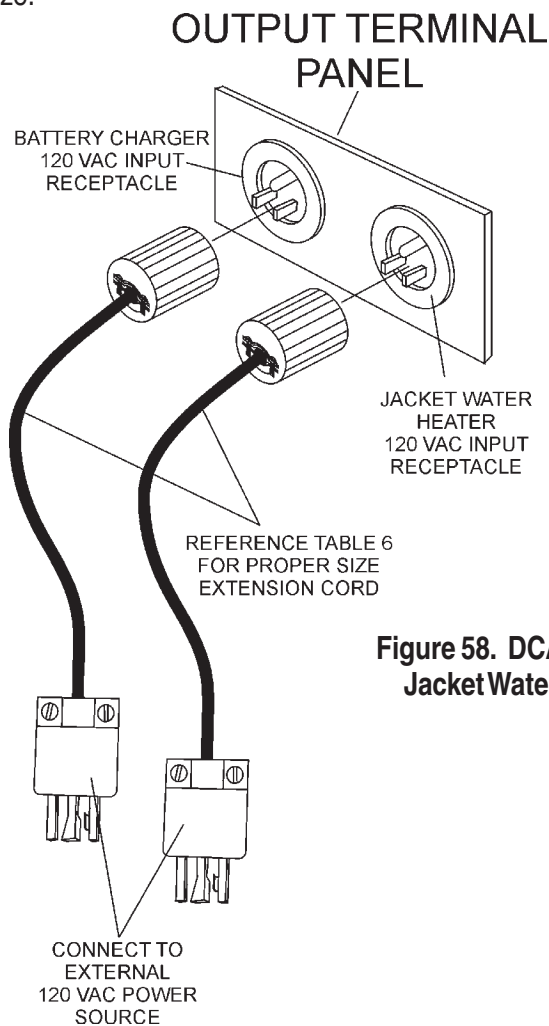

Figure 58. DCA-150SSJU3 Battery Charger & Jacket Water Heater Power Connections
These receptacles will **ONLY** function when commercial power has been supplied to them (Figure 58). To apply commercial power to these receptacles, a power cord of adequate size will be required (See Table 6).
12. **Lug Nuts** - Used to secure the wheel to the wheel hub. Always use a torque wrench to tighten down the lug nuts. See Table 16 and Figure 58 for lug nut tightening and sequence.